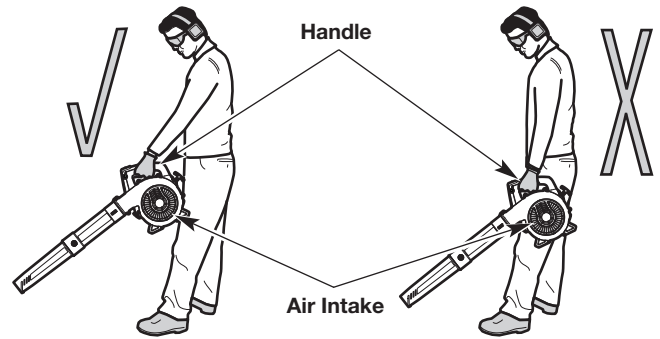

Fig. 14
- Stand in the operating position (Fig. 14). Stand up straight. Do not bend over.
- Hold the unit in front of, and away from, your body (Fig. 14).
WARNING: To prevent serious personal injury or damage to the unit, **DO NOT** hold the unit at your side (Fig. 14). The engine may be extremely hot. **DO NOT** block the air intake.